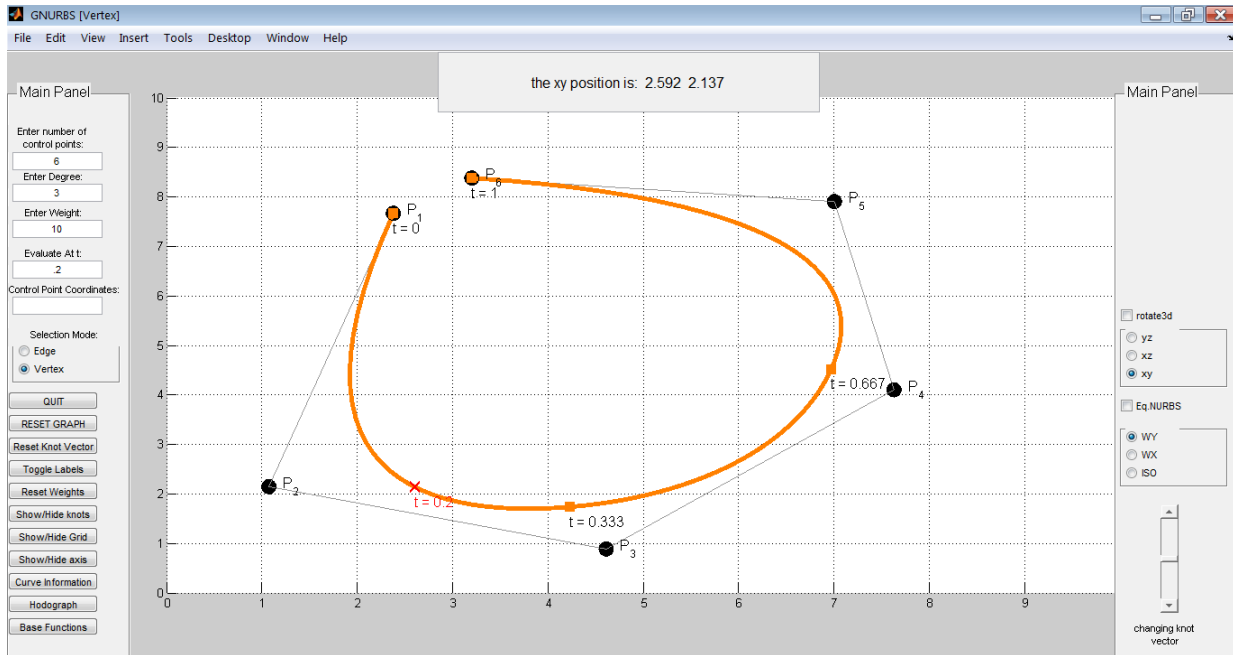

Figure 8: Evaluating the position and coordinates of the point corresponding to $t=0.2$ on the curve.
In the field “Evaluate at t ” of the left panel (4), the user can enter a value for t to calculate the corresponding point on the curve. The coordinates of this point will be shown in the status bar and the position of this point on the curve will be shown by a red cross (see Figure 8).